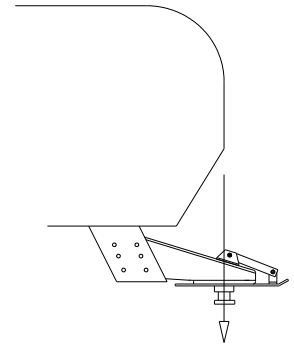

Figure 1
3. The trailer king-pin must be kept even with /or forward of the foremost point of the trailer. See "Caution" and "figure 1" on pg. 3.
4. Trucks with bed liners may need a tall Mounting Post. See "NOTE" under item 13 of "Drilling the Bed" on pg. 10 for detail.
5. Read these instructions completely and follow them accurately. Should you have any questions, please call the factory at (800) 443-2307 for installation assistance.
As a general rule, for the SuperGlide hitch to maintain proper clearance to the truck, the leading edge of the trailer (measured at the corner) should be even with the center of the king pin. (Figure 1). Most truck trailer combinations will allow 102" wide trailers if the king pin is located as described. Narrower trailers will allow the king pin to be "tucked" under the trailer over hang to some extent. Call PullRite technical support with trailer width, make and year of truck and distance the king pin is from leading edge of the trailer. 1-800-443-2307
Using a trailer that has a long rear slope to the King Pin Box Hangar, "B" in (Figure 1), may cause damage to the trailer or truck bed during turns. Dimension "B" must be less than one half the width of the inside top edges of the bed. Please call PullRite technical support, 1-800-443-2307, if more information concerning this problem is needed.
2. See figure 1. The bolt holes and appropriate bolts are listed and labeled by letters.
1. Position the bracket on the frame using the locator hole (A) seen in figure 1.
2. Install fasteners (B) at the existing hole. See Figure 1.